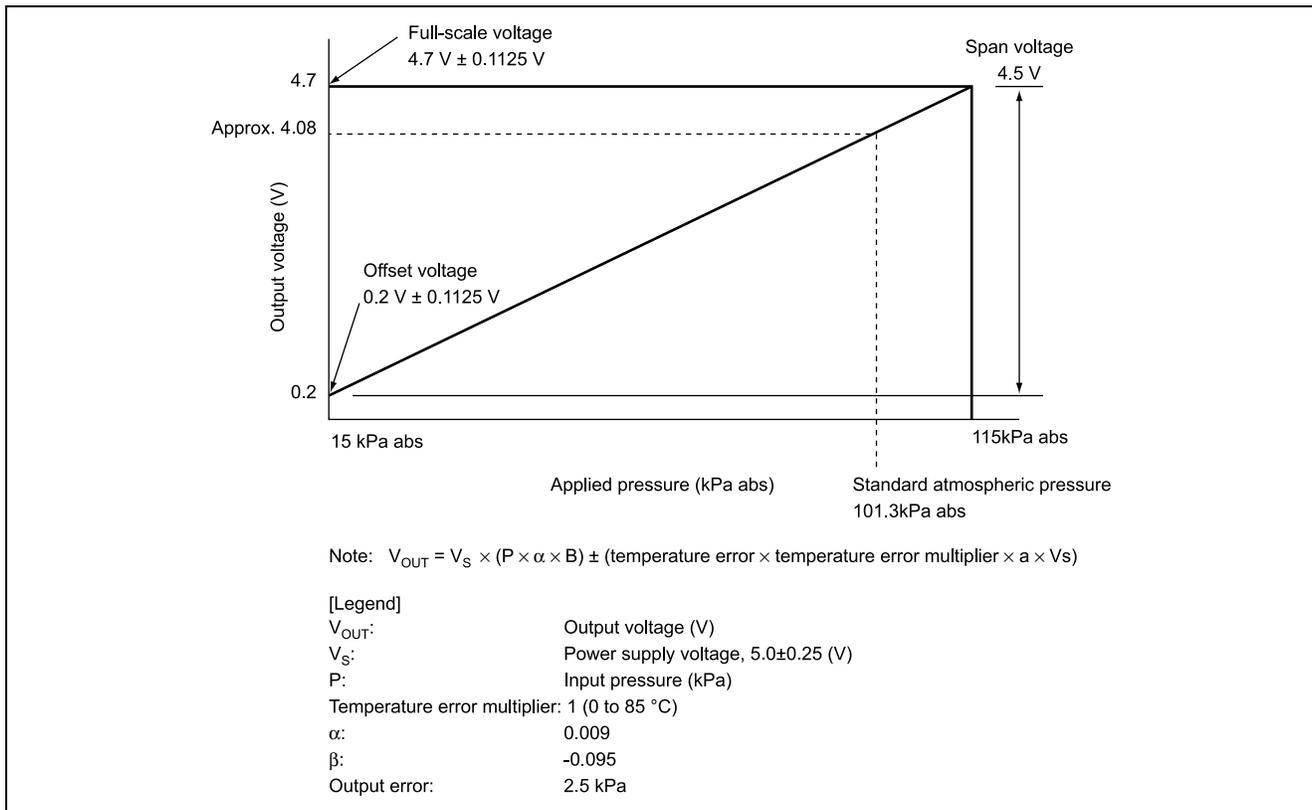

Figure 1.3 Output Characteristics (Reference)
Note: * Varies with power supply voltage fluctuations. For details refer to figure 1.3.
C. Output characteristics are shown in figure 1.3. The full-scale voltage and the scale of the output voltage vary in proportion to the power supply voltage.